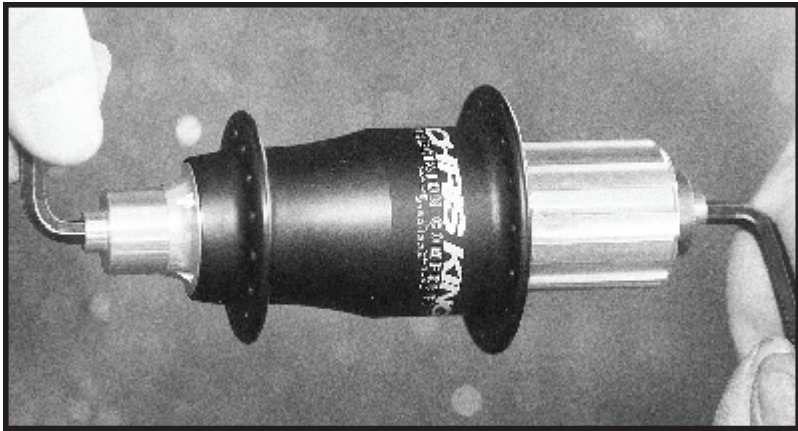

Figure 11 - disassemble main axle
2. Insert 5 mm hex wrenches into both ends of axle assembly. (See figure 11 on the following page.)